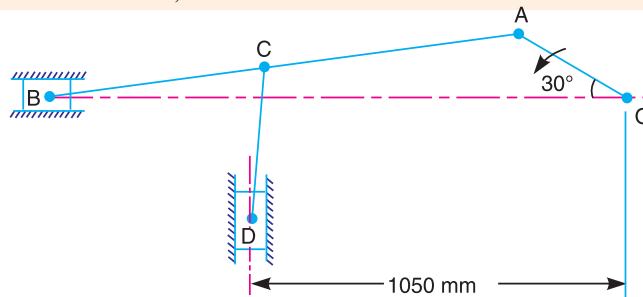

Fig. 8.12
**Example 8.6.** In the mechanism, as shown in Fig. 8.12, the crank  $OA$  rotates at 20 r.p.m. anticlockwise and gives motion to the sliding blocks  $B$  and  $D$ . The dimensions of the various links are  $OA = 300 \text{ mm}$ ;  $AB = 1200 \text{ mm}$ ;  $BC = 450 \text{ mm}$  and  $CD = 450 \text{ mm}$ .